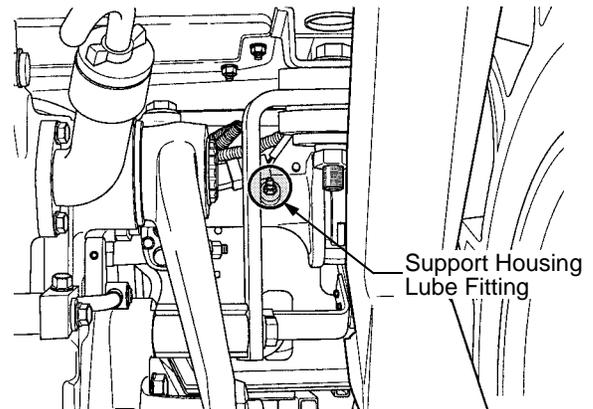

Figure 74
- Position lever support housing. See Figure 74.